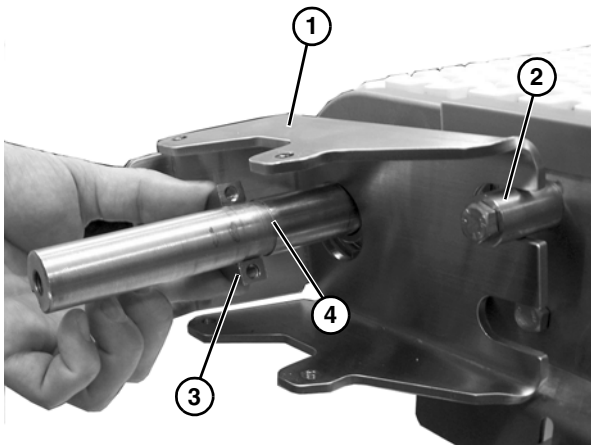

Figure 14
3. Install mounting bracket (**Figure 14, item 1**) onto output shaft and support arm (**Figure 14, item 2**).
4. Install one half of collar clamp (**Figure 14, item 3**) up to line (**Figure 14, item 4**) conveyor shaft.